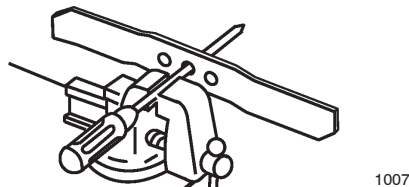

Figure 21
1. Check the balance of the blade by placing the center hole of the blade over a nail or screwdriver shank clamped horizontally in a vise (Fig. 21).